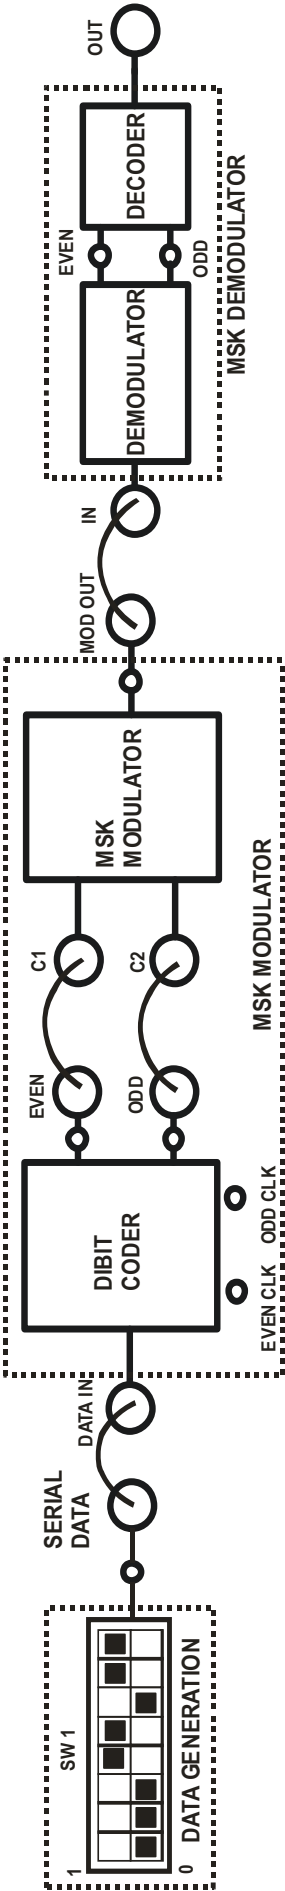

FIG 1.BLOCK DIAGRAM FOR MSK MODULATION AND DEMODULATION
1. Do the Connections as per block diagram shown in fig 1.